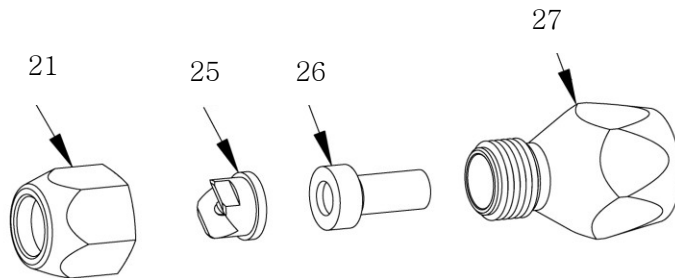

FIG1.
4. With the gun safety Trigger lock, unscrew the tip guard (1) and install the tip (2) and filter assembly (3) in the tip guard nut. Screw the assembly firmly onto the gun. Tighten with a wrench. See Fig. 1.
3. Turn the spray tip so the groove is horizontal for a horizontal spray pattern and vertical for a vertical pattern. See Fig. 1.
3. Remove the tip (25) and the filter (26). See Fig. 1.